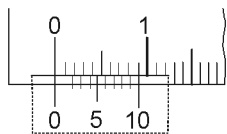
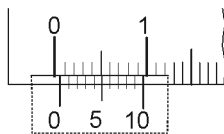
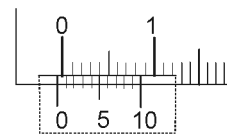

Fig.1.2
Fig.1.3
Fig.1.4
3. Calculate zero error as a given method with (Fig. 1.2 to Fig.1.4)
When the jaws measuring outer diameter O touch each other, the zero of the vernier should coincide with the zero of the main scale then, there is no error in the instrument as shown in (Fig.1.2) If it is not so, the instrument is said to possess zero error (This might have happened due to a manufacturing defect or due to rough handling). Zero error may be positive or negative, depending upon whether the zero of vernier scale lies to the right or the left of the zero of the main scale as shown in (Fig.1.3 & Fig.1.4). In this situation, a correction must be required to the observed reading.
When both jaws are touching each other, zero of the vernier scale is shifted to the right of zero of the main scale see in (Fig.1.3). In this situation, during measurements, the reading taken will be more than the actual reading. Hence, zero error is positive in this case and value of positive zero error = $0.0 + 6 \times 0.01 = (+) 0.06$ cm. For any measurement done, the zero error should be 'subtracted' from the observed reading. Thus, corrected reading = observed reading - (+ zero error)
When both the jaws are touching each other, zero of the vernier scale is shifted to the left of zero of the main scale see in (Fig.1.4). This situation makes it obvious that while taking measurements, the reading taken will be less than the actual reading. Hence, zero error is negative in this case and value of negative zero error = $0.0 + 5 \times 0.01 = (-) 0.05$ cm. Thus, corrected reading = observed reading - (- zero error)